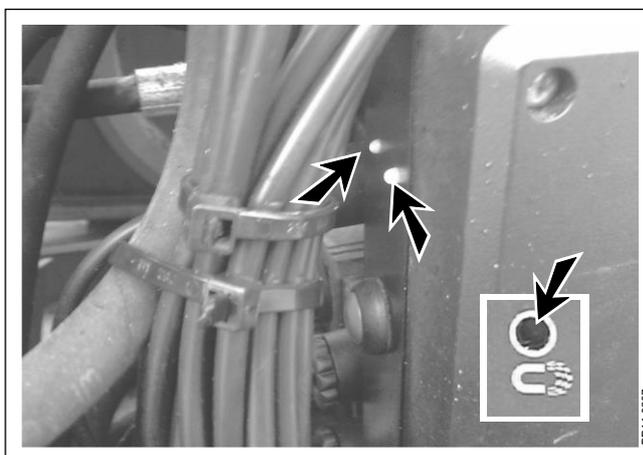

Fig. 5-6
**Fig. 5-6** When the control unit is switched on and the metal detector is on, the two control lights on the MD control unit and the light on the control box are on.